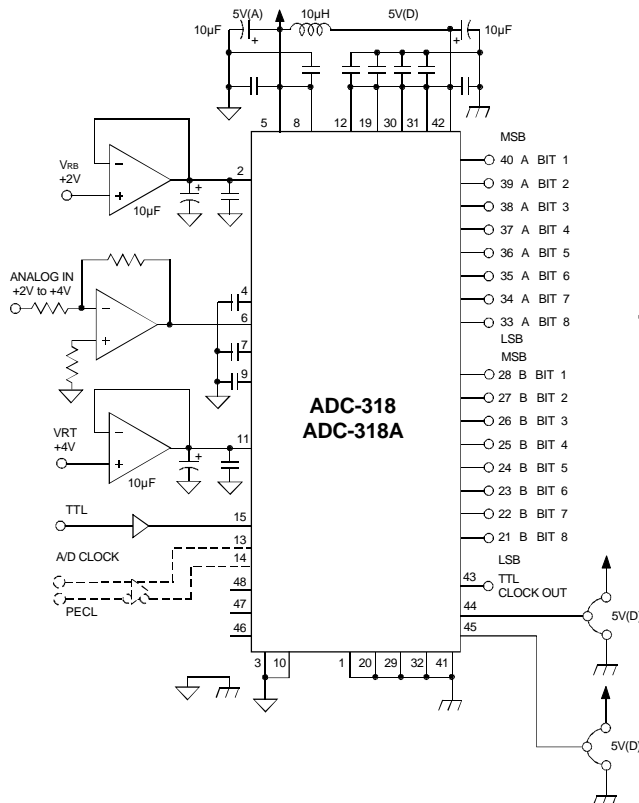

Figure 2-1: One Power Supply Operation (TTL, PECL)
6. A/D CLK input and RSET/RSET inputs are TTL or ECL, PECL (Positive ECL) compatible. Pins are provided individually. TTL or PECL is available with +5V single power applied. ECL is available with ±5V dual power applied. The connections of -DVs (pin 1) and DGND3 (pin12) are different depending on the power supply mode used. Refer to Figures 2-1 and 2-2.